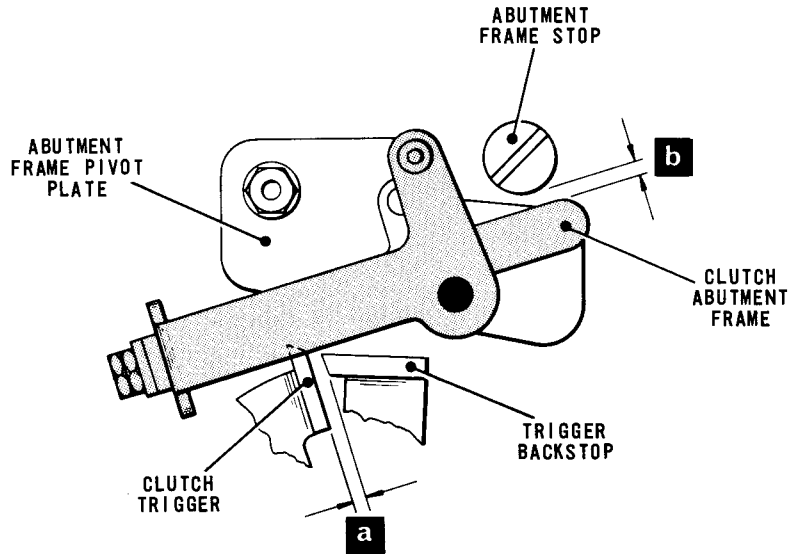

Fig. 4.2 TRANSLATOR CLUTCH TRIGGER MECHANISM
- 3.1 With the translator camshaft in the rest condition and the retention lever roller located in its recess in the retention cam, check that there is a clearance of .010 - .020 in. (dimension 'a') between the clutch trigger, Fig.4.2, and the trigger backstop.
- 4.1 With the translator camshaft in the rest condition and the retention lever roller located in its recess in the retention cam, insert a .022 in. feeler gauge between the tail of the clutch abutment frame, Fig.4.2, and its eccentric stop (i.e. set up dimension 'b'). Check that this action does not cause the clutch to trip.